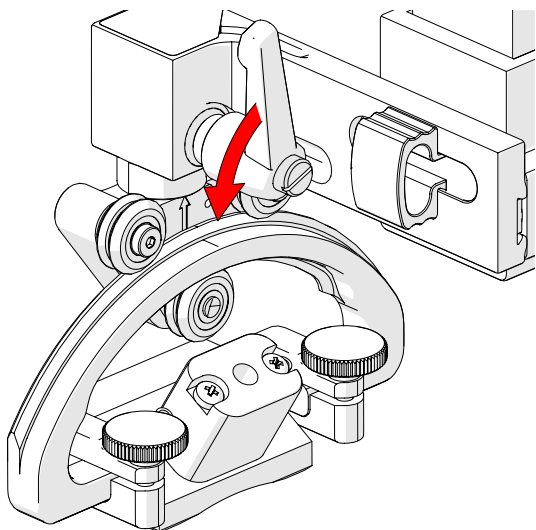

Fig. 59 - Loosen ratchet lever
1. Loosen the ratchet lever above the yoke (Fig. 59).